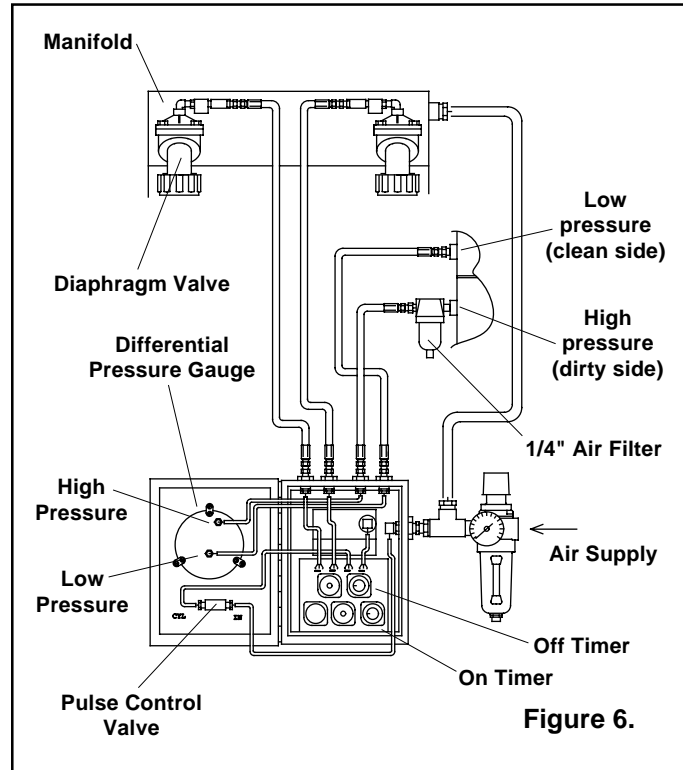

Figure 6.
**3.6.2.3** Connect air lines between the quick release diaphragm valves and panel fittings as shown in Figure 6.
**3.6.2.4** Open the panel to verify the following connections: Connect an air line between the "Low pressure" side of the differential pressure gauge to the upper fitting on the collector wall. Connect another line from the "High pressure" side of the gauge to the 1/4" air filter on the collector wall. See Figure 6 for air schematic.
(Refer to the air schematic in Figure 6, dust collector models only)